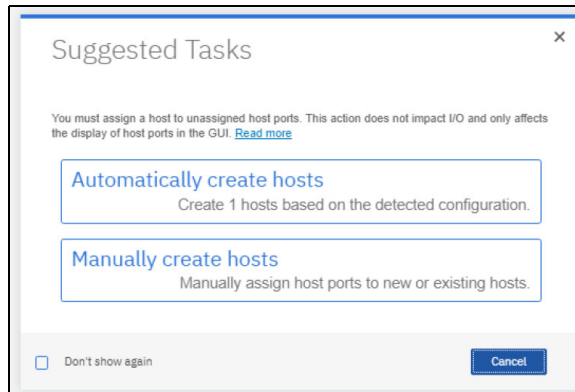

Figure 9-55 Hosts Suggested Tasks
- If any unassigned host ports are detected by the system, a suggested task window opens with two options, as shown in Figure 9-55.